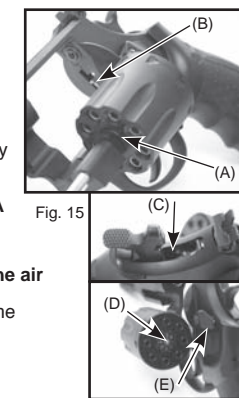

Fig. 15
- Occasionally apply one drop of RWS Spring Cylinder Oil to the yoke (A), hand (B), front of hammer (C), center pin (D), and cylinder release (E) (see Fig. 15).